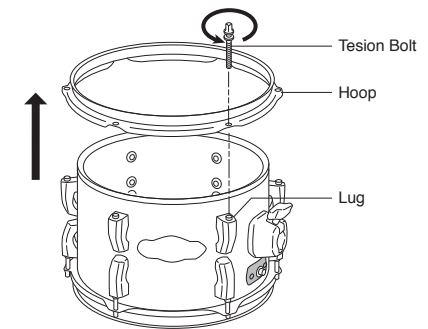

Fig.6
1. Loosen the Tension Bolts on the batter side of the drums using the provided Drum Key and remove the Hoops (Fig. 6).